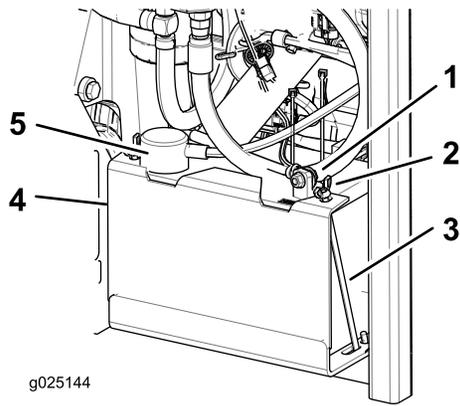

Figure 45
3. Disconnect the negative battery cable (black) from the negative (-)(black) battery terminal (Figure 45).
4. Slide the red terminal boot off the positive (red) battery terminal and remove the positive (+)(red) battery cable (Figure 45).
5. Remove the wing nuts securing the J-hooks (Figure 45).
6. Remove the clamp (Figure 45).
1. Position the battery in the tray with the terminal posts opposite from the hydraulic tank (Figure 45).
4. Secure the cables with 2 bolts, 2 washers, and 2 locknuts (Figure 45).
6. Install the clamp and secure it with the wing nuts and J-hooks (Figure 45).